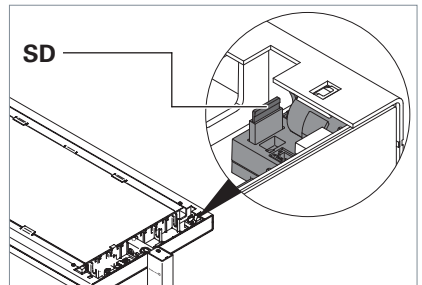

Fig. 6: Inserting the SD card.
- ▶ Insert the **SD** memory card into the slot of the TIME module, see Fig. 6.